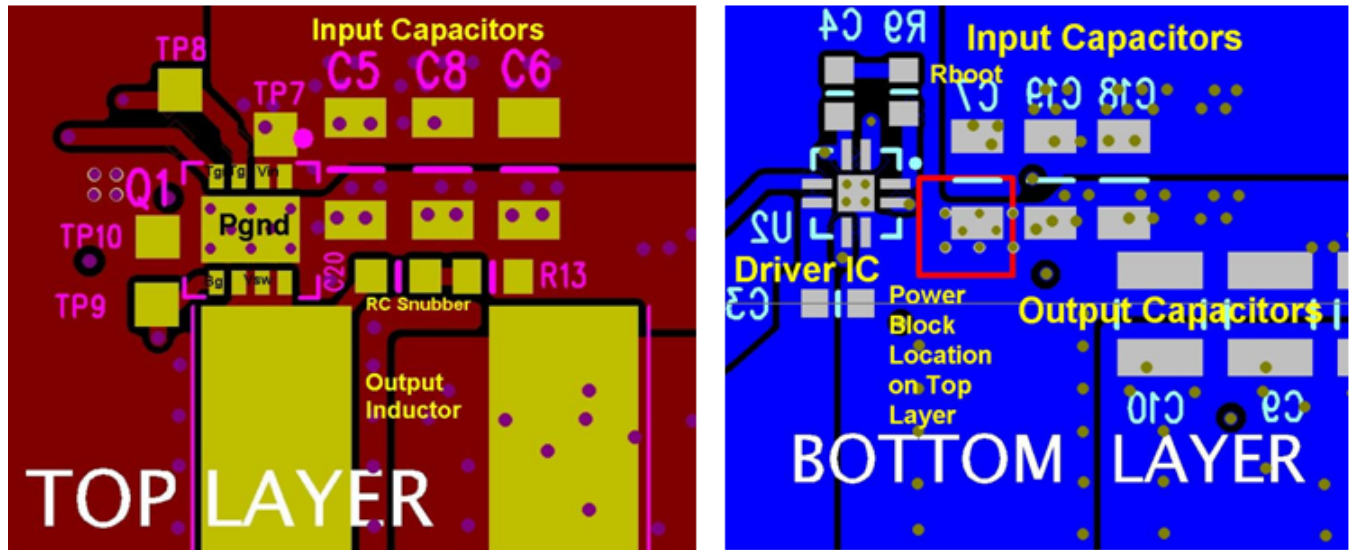

Figure 21. Recommended PCB Layout (Top Down)
- The placement of the input capacitors relative to the power block's  $V_{IN}$  and  $P_{GND}$  pins should have the highest priority during the component placement routine. It is critical to minimize these node lengths. As such, ceramic input capacitors need to be placed as close as possible to the  $V_{IN}$  and  $P_{GND}$  pins (see Figure 21). The example in Figure 21 uses six 10-μF ceramic capacitors (TDK C3216X5R1C106KT or equivalent). Notice there are ceramic capacitors on both sides of the board with an appropriate amount of vias interconnecting both layers. In terms of priority of placement next to the power block, C5, C7, C19, and C8 should follow in order.
- The switching node of the output inductor should be placed relatively close to the power block  $V_{SW}$  pins. Minimizing the node length between these two components will reduce the PCB conduction losses and actually reduce the switching noise level.(1) In the event the switch node waveform exhibits ringing that reaches undesirable levels, the use of a boost resistor or RC snubber can be an effective way to easily reduce the peak ring level. The recommended boost resistor value will range between 1 Ω to 4.7 Ω depending on the output characteristics of driver IC used in conjunction with the power block. The RC snubber values can range from 0.5 Ω to 2.2 Ω for the R, and from 330 pf to 2200 pF for the C. Please refer to Snubber Circuits: Theory, Design and Application (SLUP100) for more details on how to properly tune the RC snubber values. The RC snubber should be placed as close as possible to the  $V_{SW}$  node and  $P_{GND}$  (see Figure 21).(1)
(1) Keong W. Kam, David Pommerenke, "EMI Analysis Methods for Synchronous Buck Converter EMI Root Cause Analysis", University of Missouri – Rolla
- Use the smallest drill size allowed in your design. The example in Figure 21 uses vias with a 10-mil drill hole and a 16-mil capture pad.